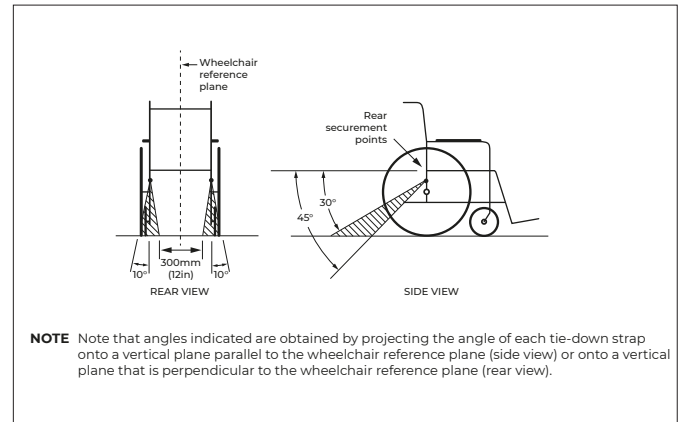

Figure 8
4. Ensure that the webbing of each tie-down is approximately the same length, and at an angle of around 30 to 45°, within the rear view zone, (Fig. 8).